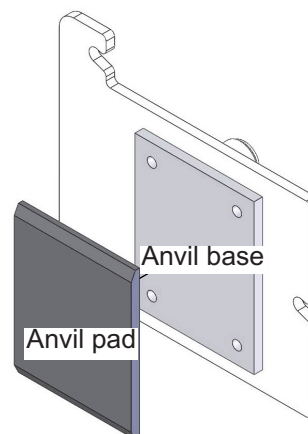

Figure 4.3
4. Peel the adhesive backing from the trimmed pad and place the pad as shown in Figure 4.3. The chamfered edges must be at the top and bottom of the anvil pad.